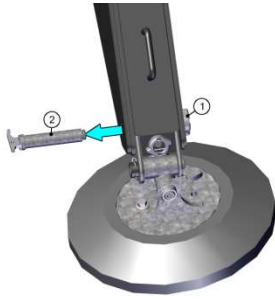

Figure: 36
- Turn plastic locking ring 1 to the right and pull pin 2 out of the outrigger leg (see figure 36).